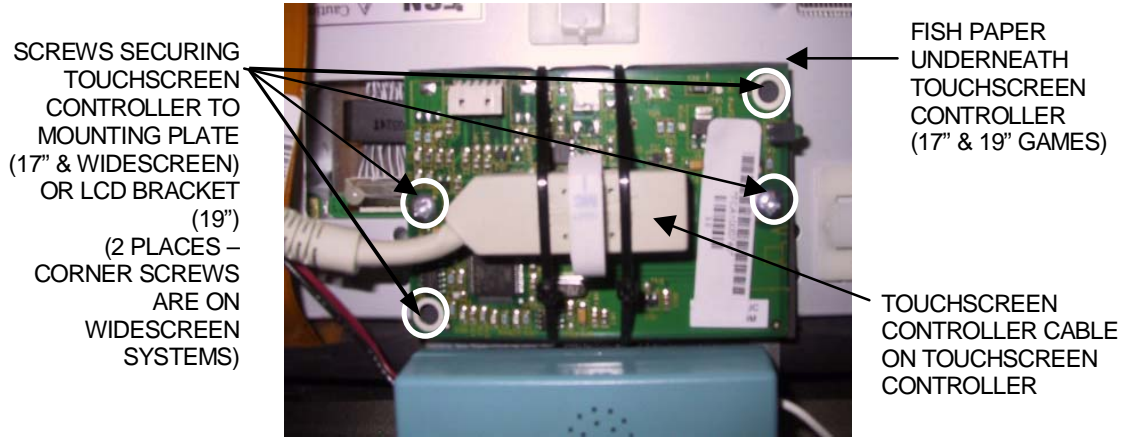

FIGURE 7 - TOUCHSCREEN CONTROLLER
11. Carefully cut the tie wraps around the touchscreen controller cable. If applicable, remove the 2 screws securing the touchscreen controller to its mounting plate (17" and Widescreen) or the LCD bracket (19"). On some 19" games the touchscreen controller is simply secured by Velcro, meaning there are no screws to remove. Remove the controller, as well as the fish paper underneath, though please note there is no fishpaper underneath the touchscreen controller on Widescreen systems. See Figure 7.
- For 17" games:* Line up the touchscreen controller on the rectangular piece of fish paper. *If you replaced the touchscreen, connect the touchscreen controller cable to the touchscreen controller and secure with 2 tie wraps, making sure that the wraps go around the fish paper.* Position this touchscreen controller assembly on the mounting plate and secure with 2 screws. See Figure 7.
For 19" games: Replace the inverter on the Velcro. Place the rectangular piece of fish paper on the mounting holes on the LCD bracket. *If you replaced the touchscreen, carefully connect the touchscreen controller cable to the touchscreen controller and secure with 2 tie wraps.* Position the touchscreen controller on top of the fish paper and secure to the LCD bracket with 2 screws or simply with Velcro. See Figure 7.
For Widescreen games: Resecure the two standoffs to the touchscreen controller bracket, making sure that the standoffs secure this bracket to the rear of the monitor. *If you replaced the touchscreen, carefully connect the touchscreen controller cable to the touchscreen controller, and secure it with two tie wraps.* Position the touchscreen controller over the two standoffs and secure it in place with two screws (see Figure 7). Replace the inverter on the Velcro.